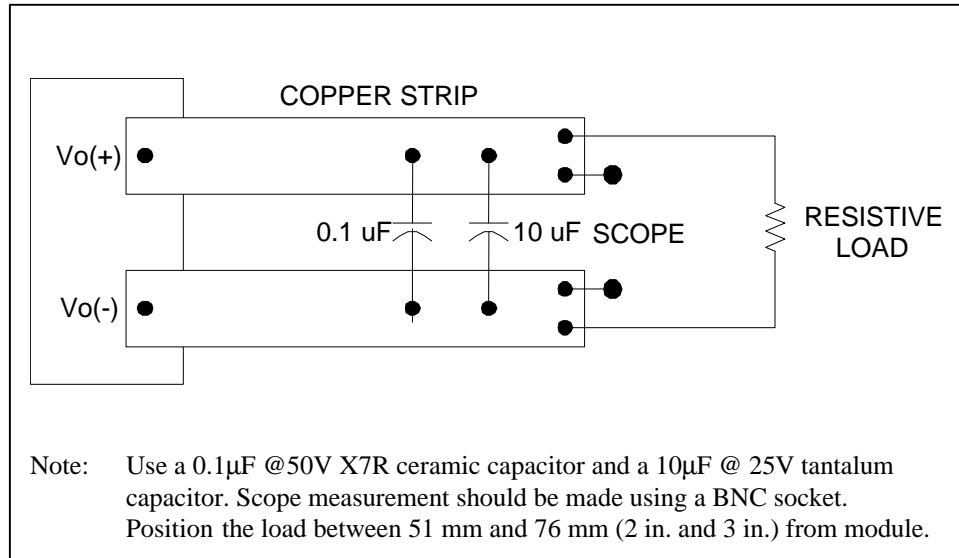

Figure 2. Peak to Peak Output Noise and Ripple Test Measurement Setup.
- See Figure 2 for the Output Ripple Test Setup.